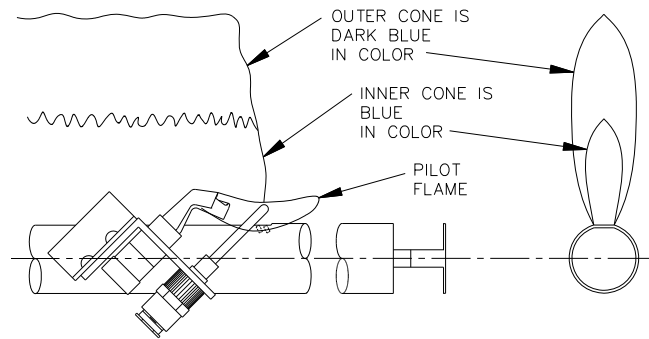

Figure 9.1: Standing Pilot and Main Burner Flame
3. Check the pilot and main burner flame. See Figures 9.1 and 9.2. The pilot should provide a steady flame enveloping $3/8''$ to $1/2''$ (1 cm to 1.2 cm) of the flame sensor. If required, adjust the pilot as stated in the gas valve manufacturer's instructions or paragraph 7.D. The main burner flame inner cone should be approximately $1-1/2''$ (4 cm) high and should have a very sharp, blue color characteristic.